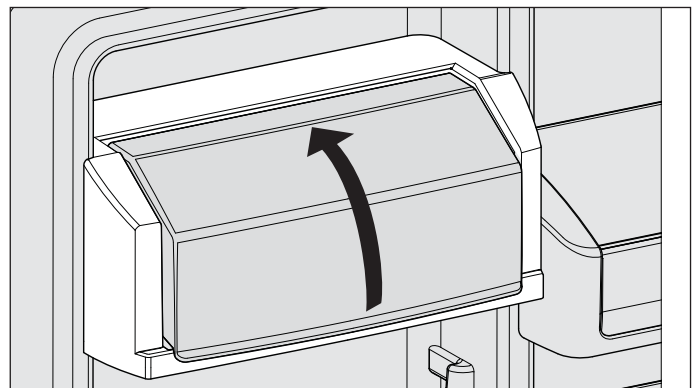

Figure 5-8. Dairy Door Removal
2. Grab the dairy door on each side and flex the outer edge inwards until the door is free of the pins in the door liner, then pull from door. (See Figure 5-8)